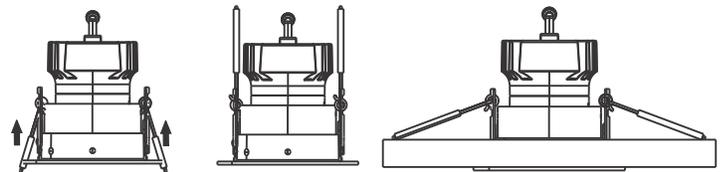

Fig. 4
Step 5. Push the clips on the trim until they are in the vertical "up" position". Release the clips as you insert the trim into the ceiling. **Fig. 4**